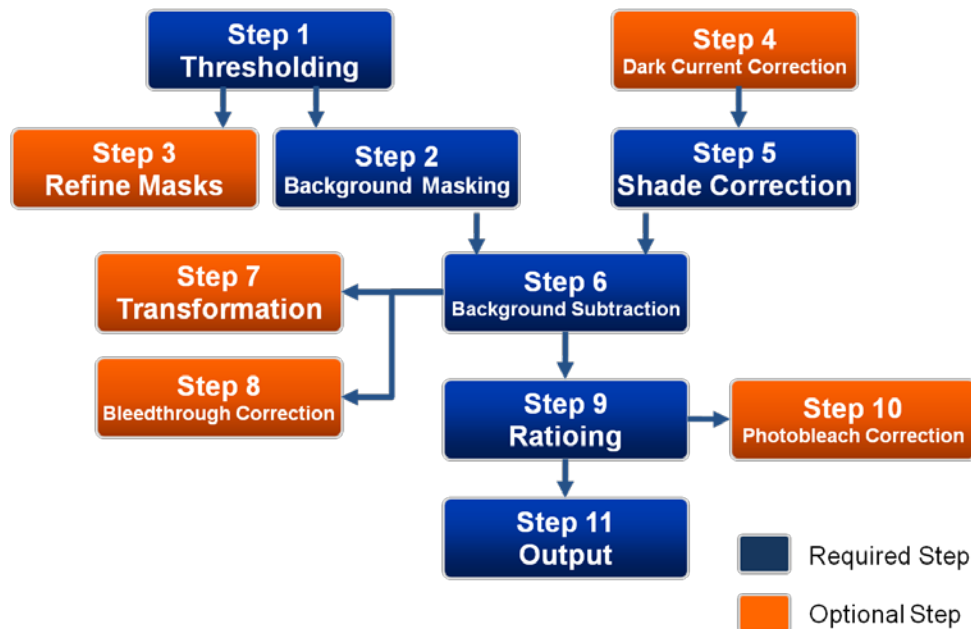

Figure 1: Biosensors Package Workflow
1. Select checkboxes of the steps you would like to run. A step that depends on other step(s) cannot be selected until the step(s) on which it depends have been selected (see Figure 1: Biosensors Package Workflow).